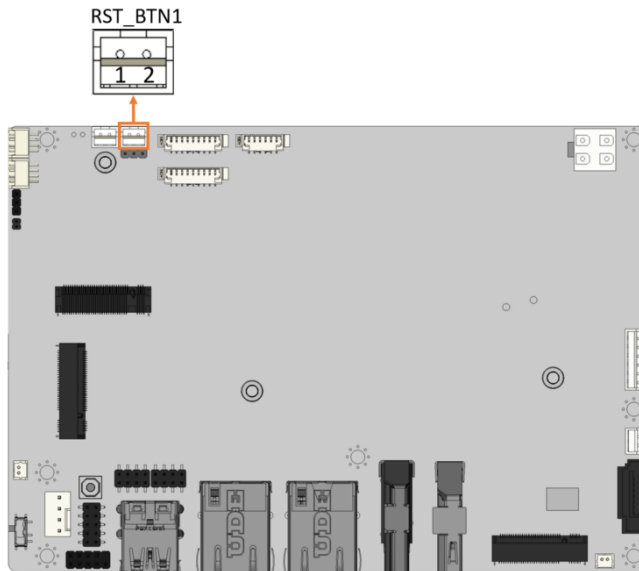

Figure 3-11: Reset Button Connector Location
- CN Location:** See **Figure 3-11**